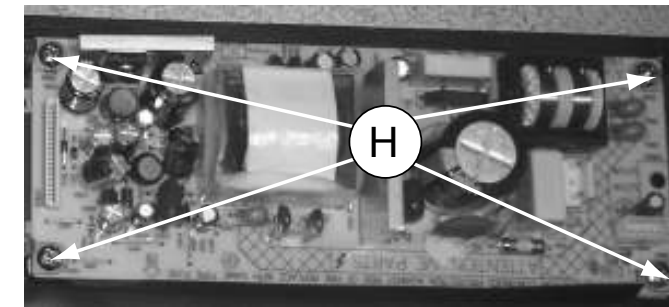

Figure 8
- 1) Loosen 4 screws "H" on the top of Power Board as shown in figure 8.